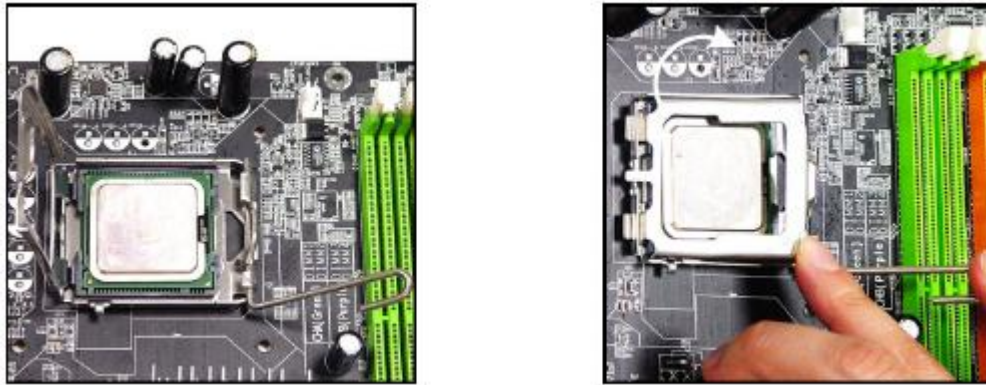

Figure 27: Cover the load plate
5. Figure 1 shows the battery location. Gently pry the battery free from its socket, taking care to note the "+" and "-" orientation of the battery (Figure 27).